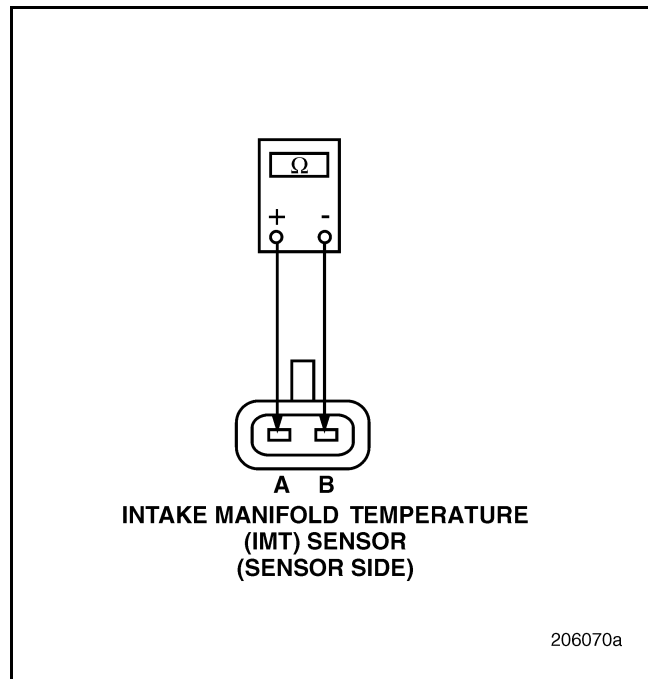

Figure 197
3. Measure the resistance across the pins of the IAT Sensor with the air temperature between 32° and 194°F (0° and 90°C) (see Figure 197).